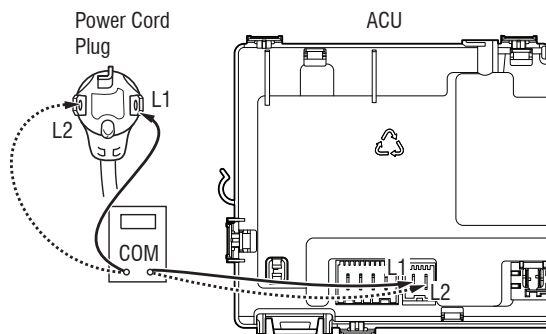

Figure 4b - Plug-to-terminal connections for electric dryer
3. With an ohmmeter, check the continuity from L1 and L2 plug terminals of the power cord to the terminals for L1 and L2 on the ACU. See figure 4b.